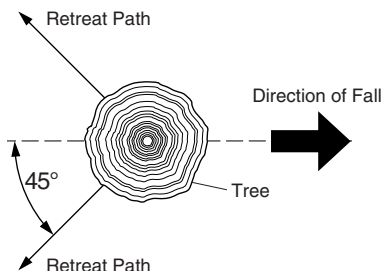

Figure 11 - Retreat Path From Tree
3. Plan and clear a retreat path before felling. Make retreat path opposite to planned direction of fall of tree and at 45° angle (see Figure 11).